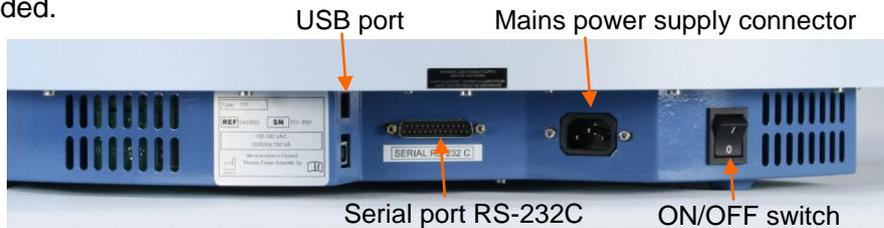

Figure 7. Mains power supply connector
Warning! Ensure that the mains switch (Figure 7) on the bottom left of the back/side panel is in the OFF position. Never operate your instrument from a power outlet that has no ground connection.
1. Connect the mains supply cable to the mains power connector (Figure 7) at the bottom left of the back/side panel. If you need to use any other type of mains supply cable than supplied, use only cables certified by the local authorities. Before you plug in the power cable, ensure that the voltage on the type label at the bottom left of the back/side panel (Figure 7) corresponds to the local voltage.